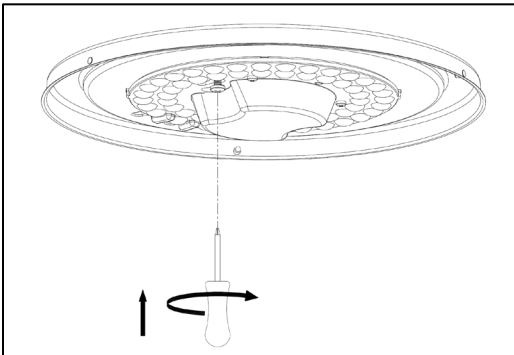

Figure 11
- Secure the 2 screws with Phillips screwdriver (See Figure 11).